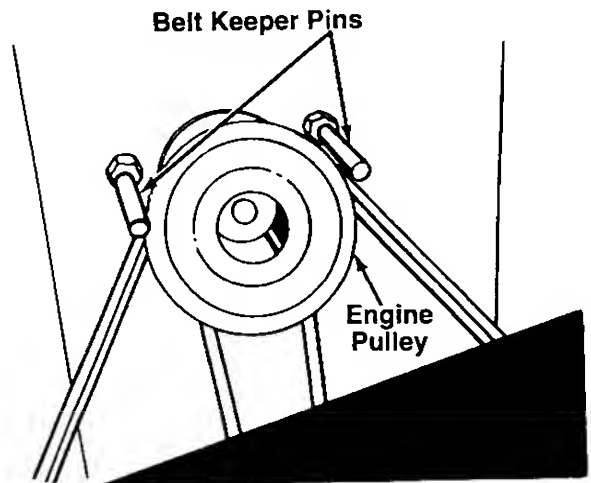

FIGURE 19.
NOTE: Figures 19, 22 and 23 are shown with the unit tipped up for clarity. It is not necessary to tip the unit to remove the belts.
2. Remove the belt keeper pins from the engine pulley belt guard. See figure 19.
NOTE: When reassembling, make certain belt keeper pins are assembled in the same locations from which they were removed. See figure 19.
3. Remove the belt keeper pins from the engine pulley belt guard. Refer to figure 19.
NOTE: Make certain belt keeper pins are reassembled as shown in figure 19.